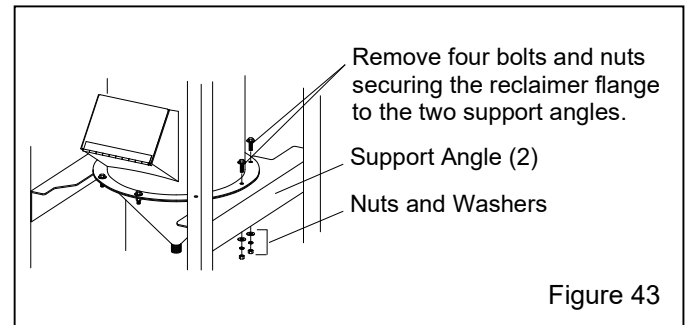

Figure 43
7.12.3 Refer to Figure 43 and remove the four fasteners securing the reclaimer to the two support angles. Mark each of the four lower-flange bolt holes for to assist with reinstallation.